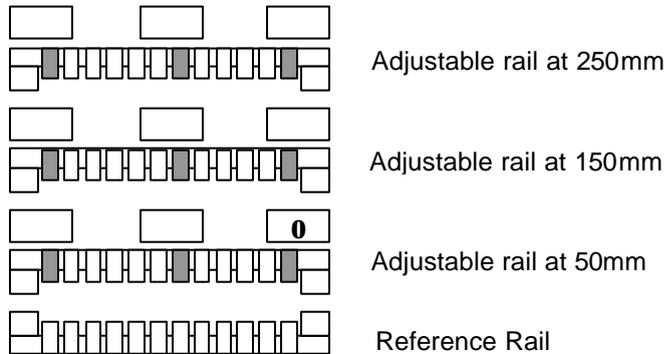

Figure 13
- (Final leveling check) The reference point for measuring the table flatness is the far right claw on the adjustable rail, when it is 50mm from the fixed rail (indicated by a 0 in Fig.13). Measure the rail flatness at the nine points identified in Fig.13.